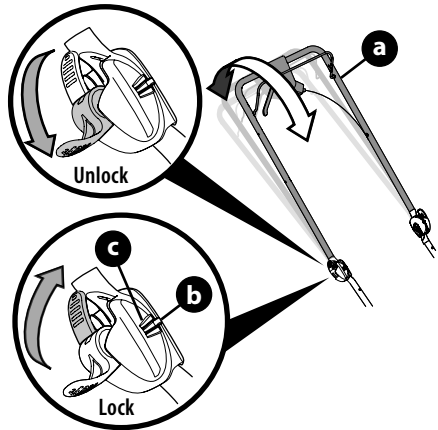

Figure 19
1. Unlock the two handle release levers (Inset, Figure 19).
3. Lock the two handle release levers (Inset, Figure 19).